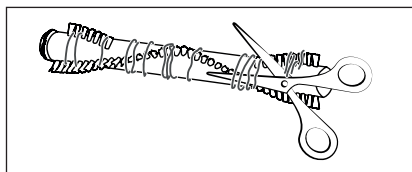

Fig. 26
- 4) Cut threads and hairs along the bristles of the rotary brush (21) with scissors (see Fig. 26). Remove threads and hair from the rotary brush (21).